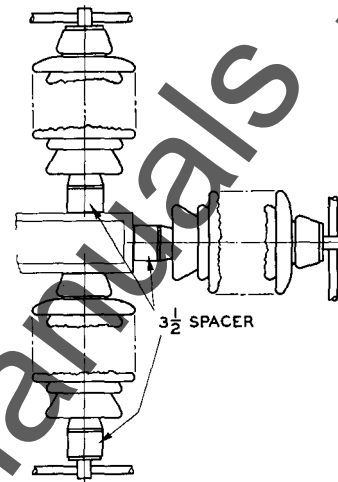

Fig. 2
- (b) To make the insulator stack develop its full electrical characteristics. See Fig. 2.